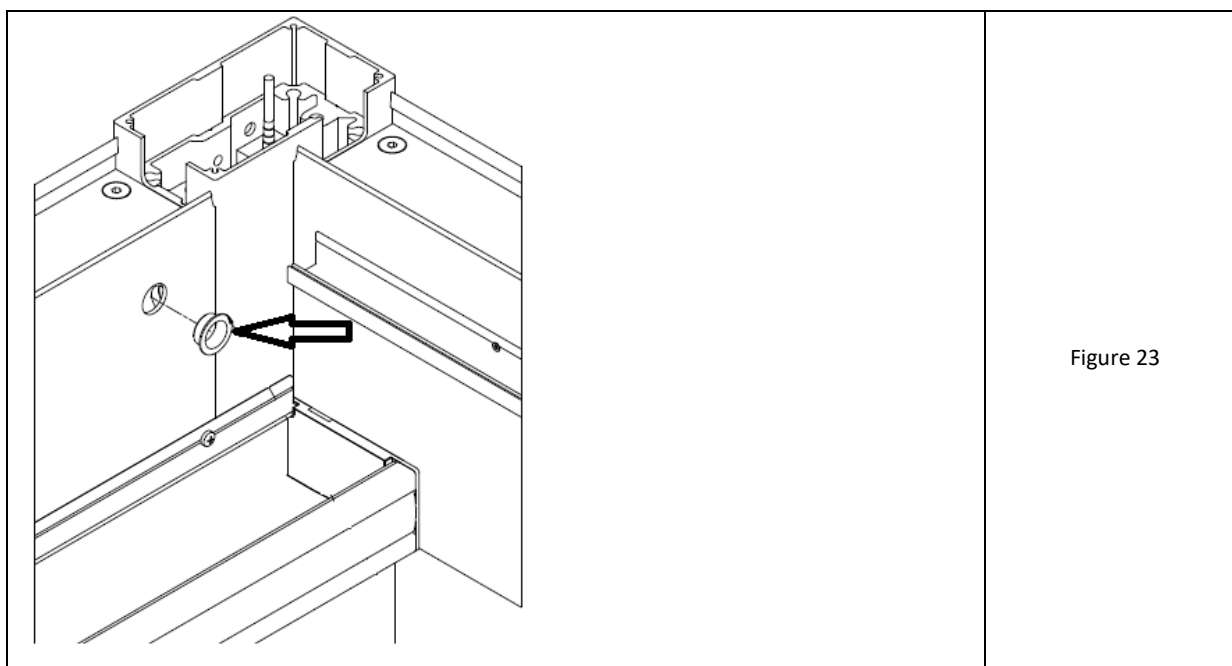

Figure 23
20. In the extreme holes at both ends of the lengthwise beams, hammer plastic sliding rings on the side wall (fig. 23).